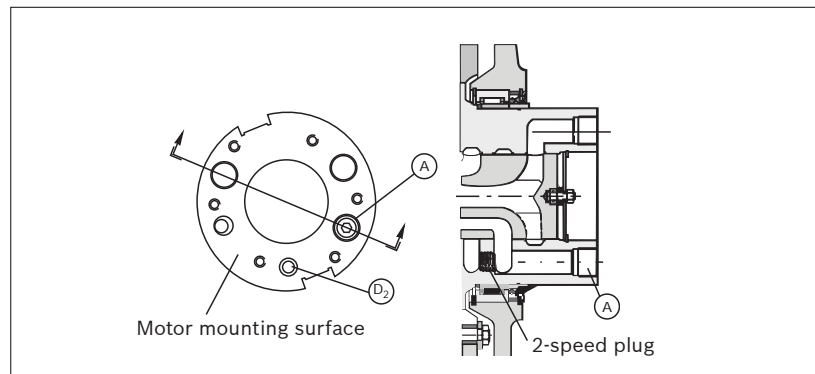

Fig. 12:
Before mounting of the valve, check that the motor is mounted into the bracket with “D2” connection on the motor mounting surface facing downwards, see figure 12.
- Mount the plug BSTP 3/4" (included in the mounting set) in the bottom of the hole for port “A” see figure 12.